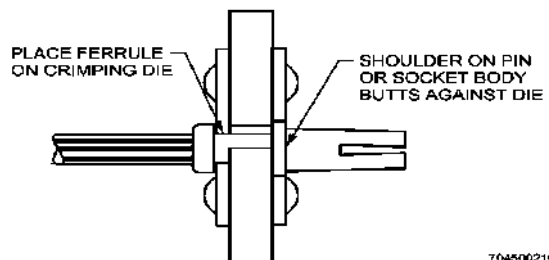

Figure 10-74 Contact-Ferrule Assembly in Crimping Die of AMP 220066-1 Ferrule Crimping Tool Ready for Crimping
- (1) Insert crimped centre contact into contact body until cable dielectric bottoms against dielectric inside contact body. Outer conductor of cable should slip inside contact backshell. (See Figure 10-74)